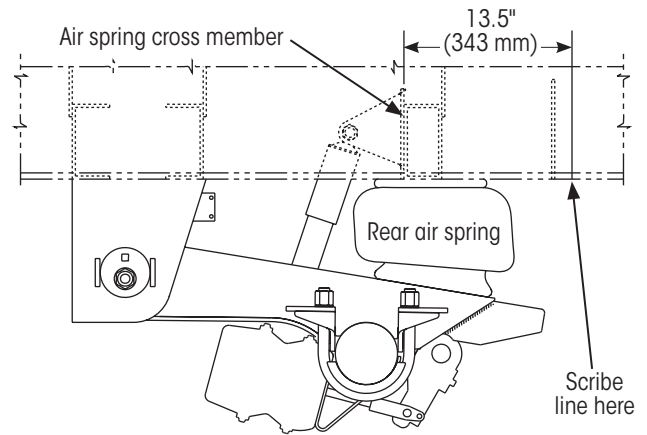

Figure 48: Marking SURELOK® mounting position
1. **Locate** the crossmember nearest the rear air spring (Figure 48).
2. **Measure** 13½ inches from the front edge of this crossmember to the rear of the suspension and scribe a line on the underside of the trailer frame (Figure 48).